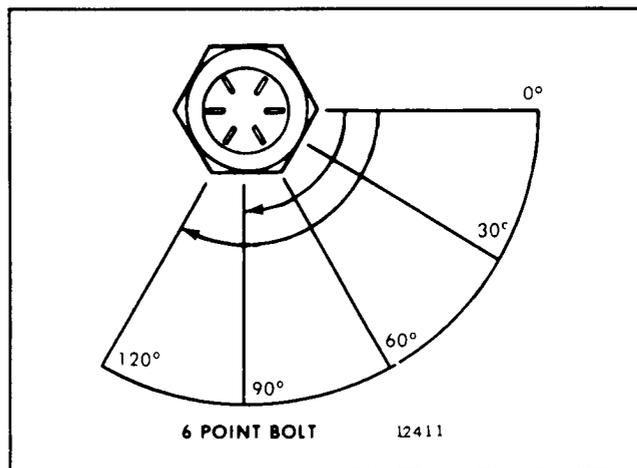

Fig. 2 - Torque-Turn Limits
10. Turn the bolts an additional  $90^{\circ}$ - $120^{\circ}$  (Fig. 2) to obtain the required clamping.